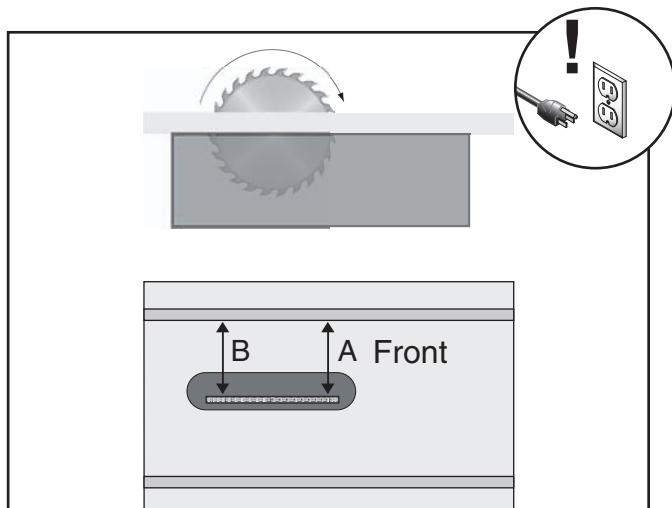

Figure 64. 90° blade parallelism measurement.
4. Using an adjustable square, measure the distance (A) between the miter slot and the front of the blade as shown in **Figure 64**.